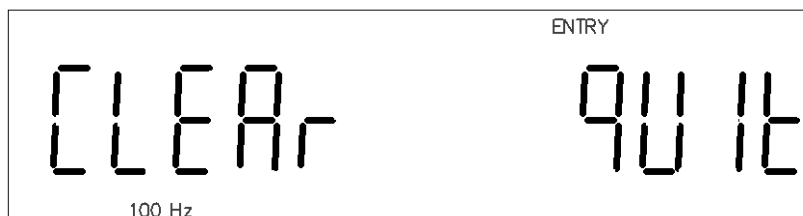

Figure 3-4 Exit Correction
18. If a DUT is connected to the test fixture, or the fixture is not opened or shorted reliably, the instrument will not perform open or short operation. The information shown in figure 3-4 will be displayed. Press **[ESC]** key or **[ENTER]** key to return to the measurement status.